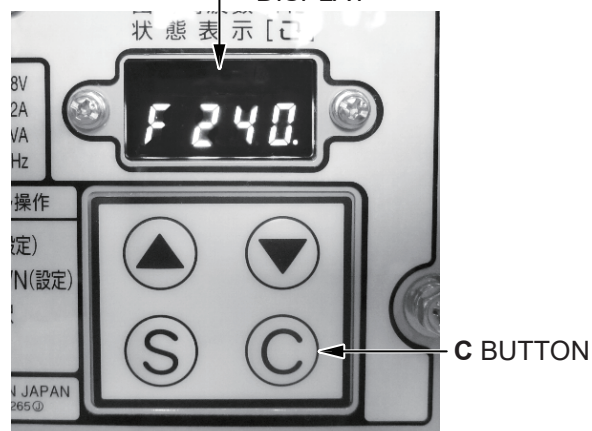
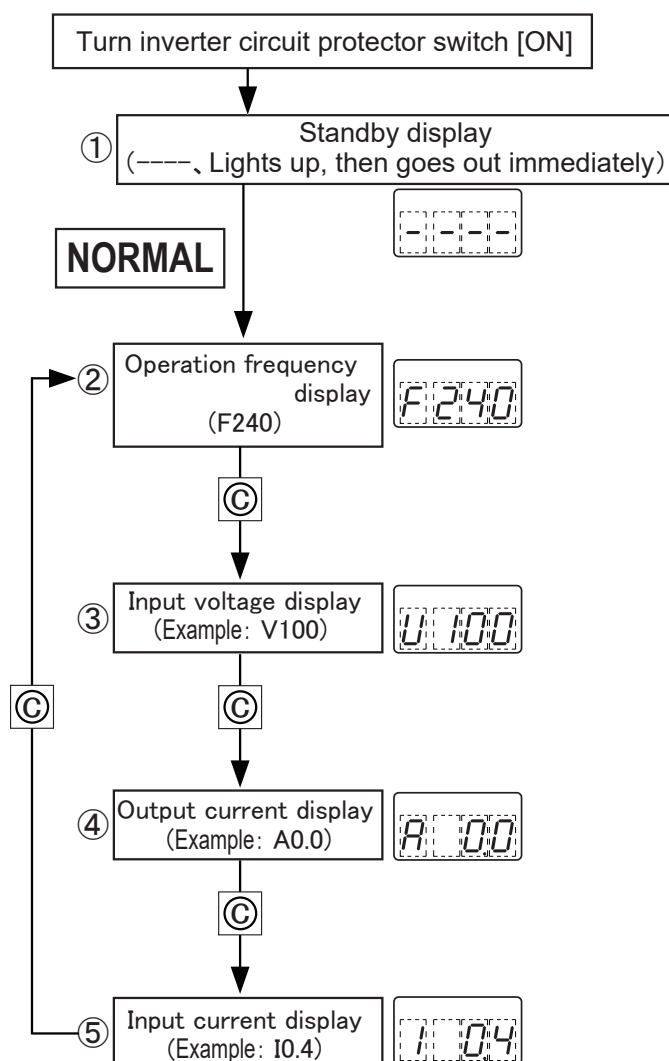

Figure 4. Frequency Adjustment / Abnormality Display (Frequency)
Figure 5. Power Source Condition And Output Current Check
4. When the circuit protector switch is turned ON, frequency (when normal) is displayed at the **Frequency Adjustment / Abnormality display** (Figure 4).
- Once the frequency is displayed, check the power source condition and output current by pressing the **C button** (Figure 4). Refer to Figure 5 for the display sequence.